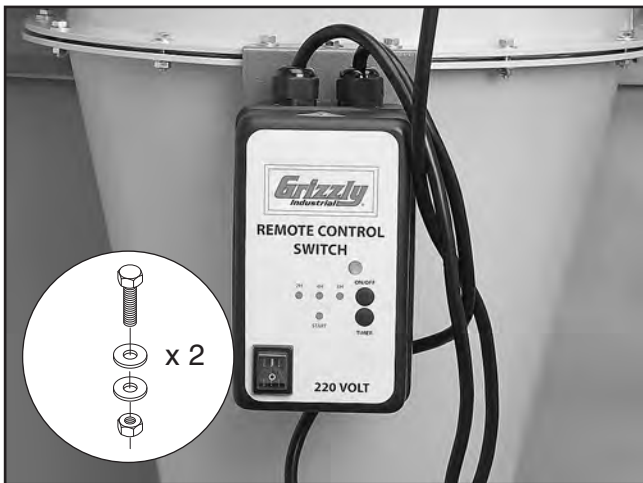

Figure 31. Magnetic switch mounted to funnel.
24. Mount the switch on the funnel with the (2) $\frac{5}{16}$ "-18 x 1" hex bolts, (4) $\frac{5}{16}$ " flat washers, and (2) $\frac{5}{16}$ "-18 hex nuts (see **Figure 31**).